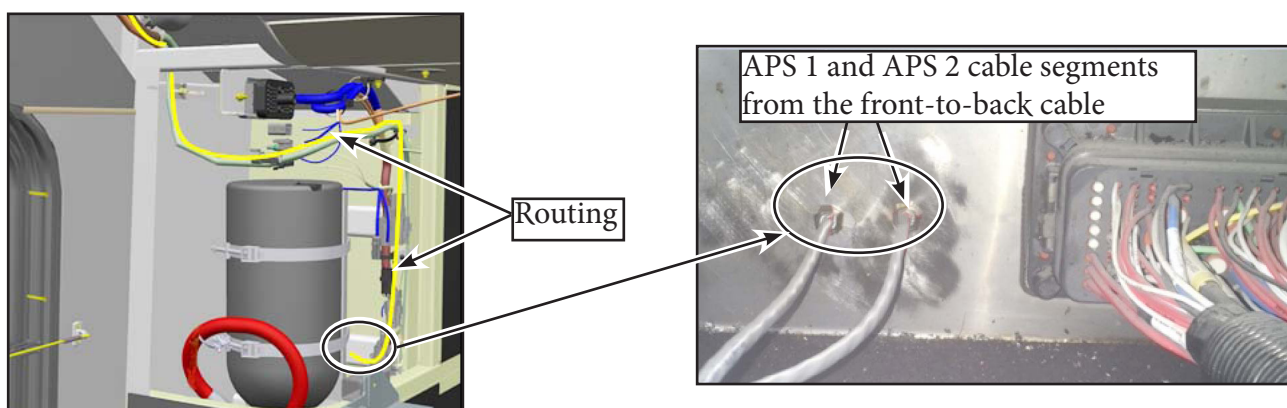

Figure 27 - Front-to-Back Cable Routing in the +IB-X6499A Area (FSS Side)
- 2.14. Continue routing and tie wrapping the front to back cable behind the Fire Suppression System (FSS). Insert the APS cable segments with the cable glands separately into the two holes previously drilled in step 2.3. Torque the cable glands to 3-4.5 N•m (see Figure 27).